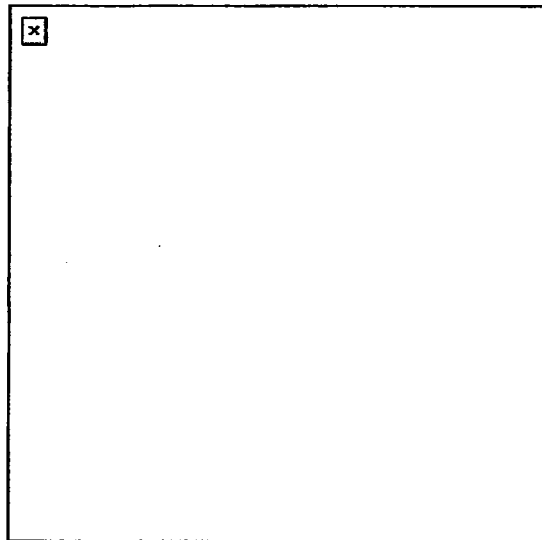

Figure 9. Linear target with depth.
- (3) Linear target with depth. Initially aim at the near flank with range set to the midpoint of the target unless another portion of the target is more critical or presents a greater threat. Fire on the near flank, then traverse and search back and forth, covering the entire target (Figure 9).